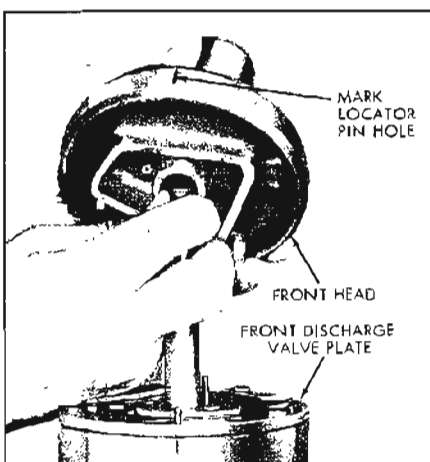

Figure 11-148—Installing Front Head on Cylinder Assembly
3. Assemble front discharge valve plate, aligning holes with dowel pins and proper openings in head. See Figure 11-148.
5. Examine location of dowel pins and contour of webs and mark dowel location on head with pencil as shown. Use care to avoid damaging teflon surfaces. See Figure 11-148. When in proper alignment, seat on front discharge valve plate with light mallet taps.